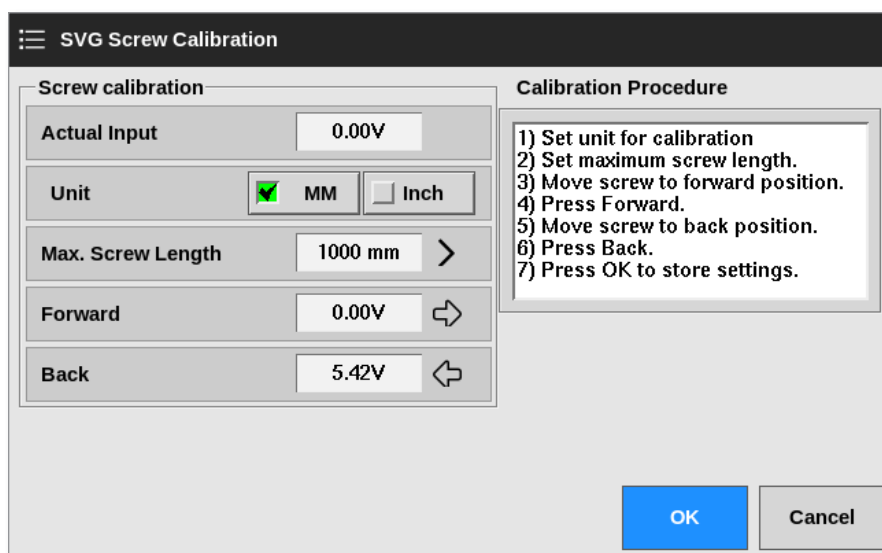

Figure 14-2 SVG Screw Calibration box
11. Follow the calibration procedure as shown on the Calibration Procedure box. See Figure 14-2.